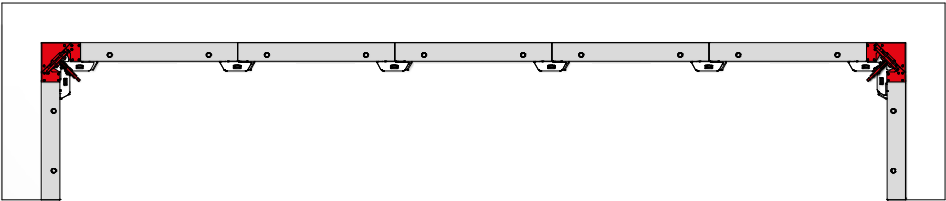

Fig. 34.1
- 1. Remove the M assembly locks connecting the stripping corners to the panels (Fig. 34.1).